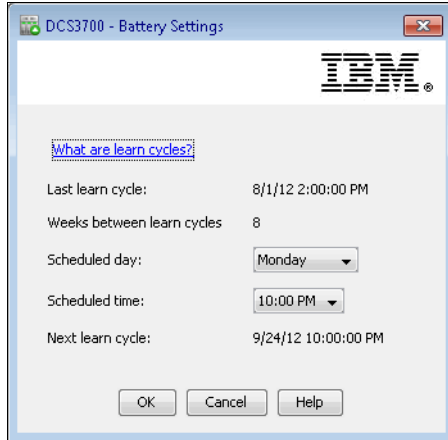

Figure 9-8 Battery Settings
- ▶ **Battery Settings:** With this option, you can schedule a battery learn cycle on both controllers (Figure 9-8). A learn cycle is an automatic cycle for calibrating the smart battery gas gauge. The learn cycle consists of these phases: